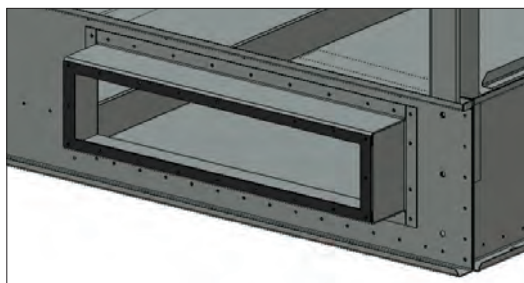

Figure 12. Flume Box Butyl Sealer Tape Application
2. Wipe down the mating surface on the outer, protruding end of the flume box and apply a layer of flat butyl sealer tape (BAC Part #554000) around the face of the flange over the centerline of the holes. Do not overlap or stretch too thinly at the corners. When it is necessary to splice the butyl sealer tape, be sure to press the two ends together to form a smooth, continuous strip. See **Figure 12**.